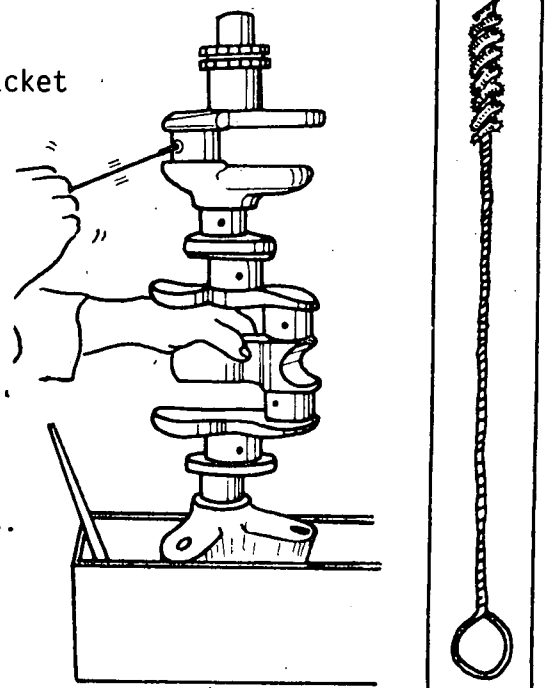

Fig. 1
- 1) Clean the inside parts of the crankshaft with a ramrod (fig. 1).